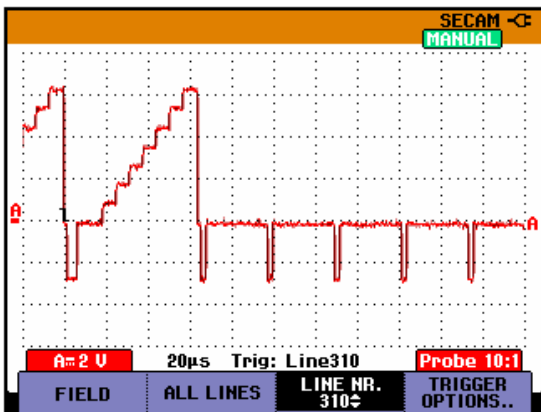

Figure 4-11. Trace for PAL/SECAM line 310
- ⇒ line number 310 for PAL or SECAM, see Figure 4-11.